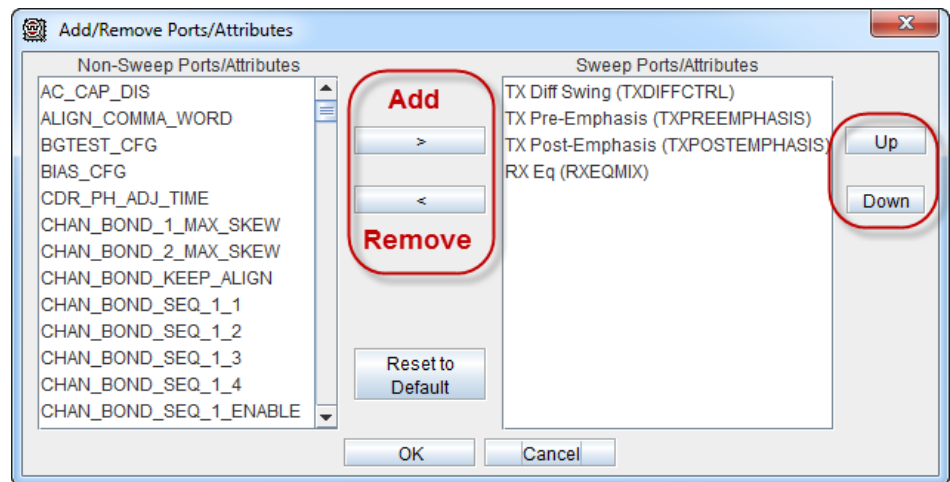

Figure 9: Sweep Settings Options
4. In the **Add/Remove Ports/Attributes** dialog box, shown in Figure 9, select the parameters listed below and place them in the order shown.